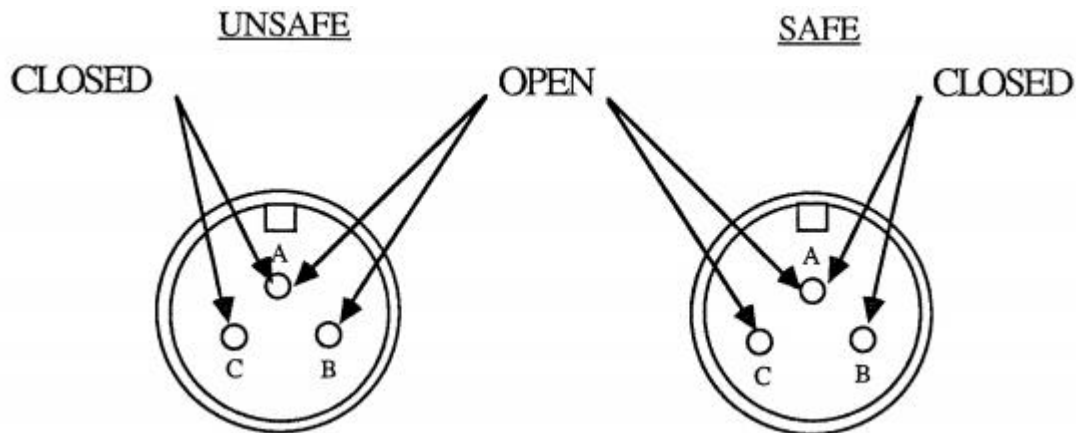

Figure 2. Interlock Jack
2. Connect ac power source of transmitter to interlock jack so that RF output will be disabled in event of malfunction. Figure 2 shows circuit conditions with unit turned **ON**.